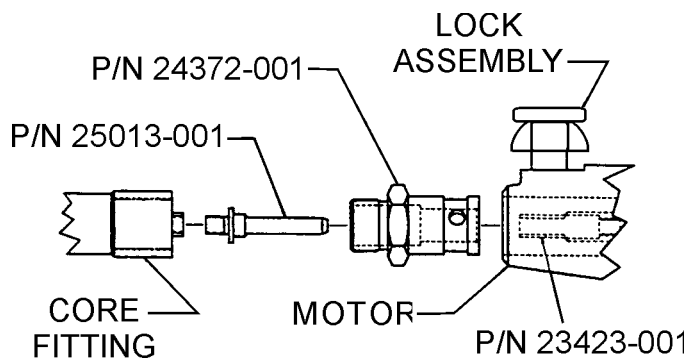

Figure 3. Shafting to Motor Connection
3. To connect the 382V flexible shafting to the vibrator motor see (Figure 3).